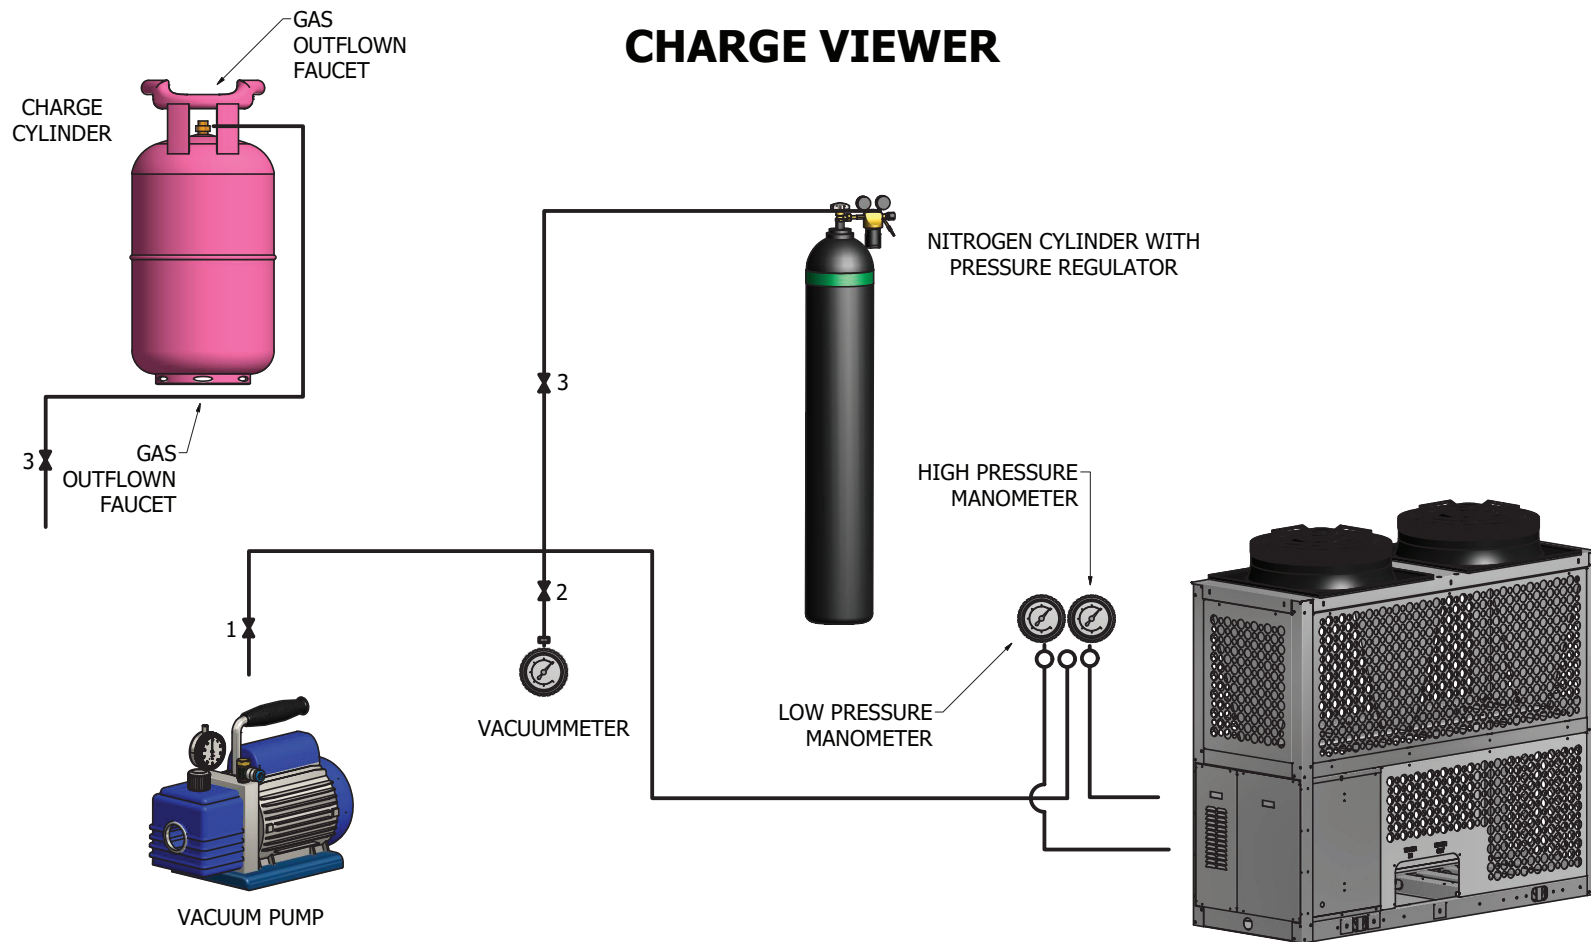

Fig. 15.- CHART FOR OBTAINING VACUUM AND FOR REFRIGERANT CHARGING
1. Turn on the vacuum pump, then open valve 1 (fig 15). Later on, isolate the vacuum pump and open the valve.
To do the refrigerant charge, replace the Nitrogen cylinder shown in Fig. 15 with a refrigerant cylinder. Purge the hose that links the cylinder to the service valve.